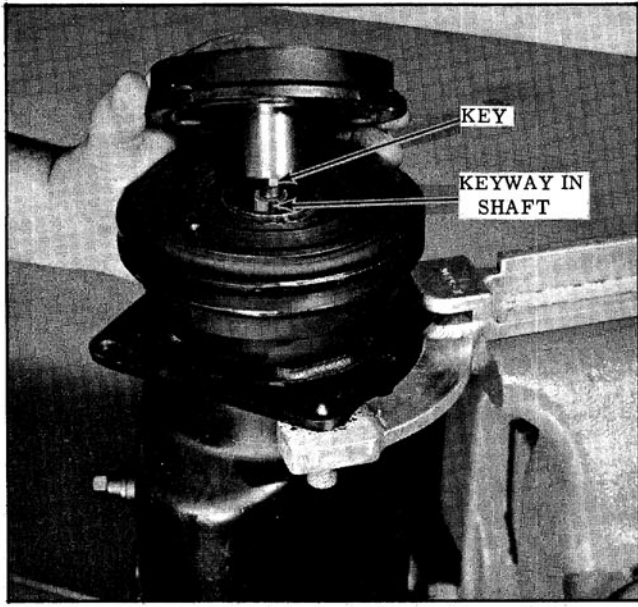

Fig. 14-78 Aligning Driven Plate Key
2. Line up the key in the hub with keyway in the shaft. (Fig. 14-78)